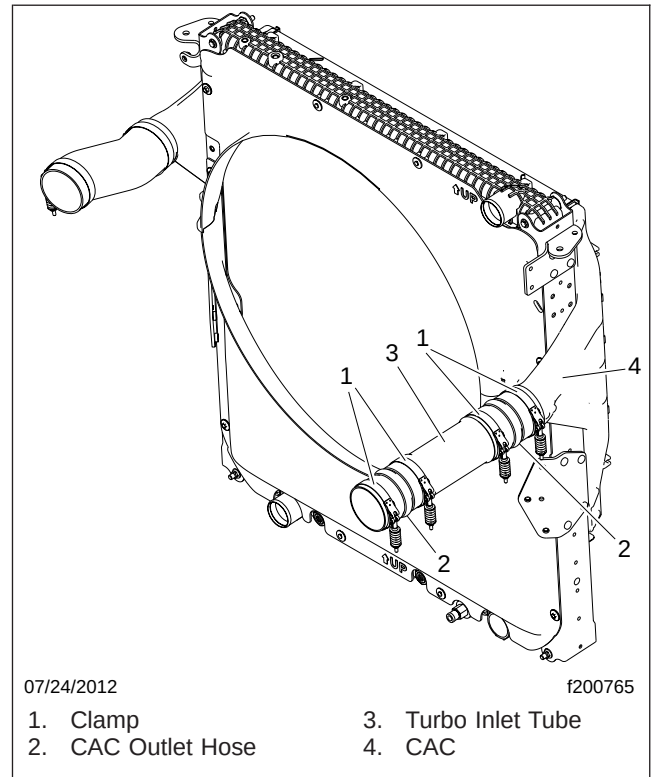

Fig. 1, CAC Hose, Right Side
6. Remove the right side CAC hose. See Fig. 1.